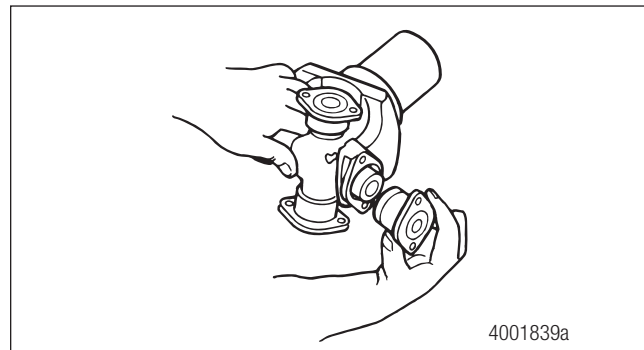

Figure 6.2
4. Remove the second bearing cup. Figure 6.2.